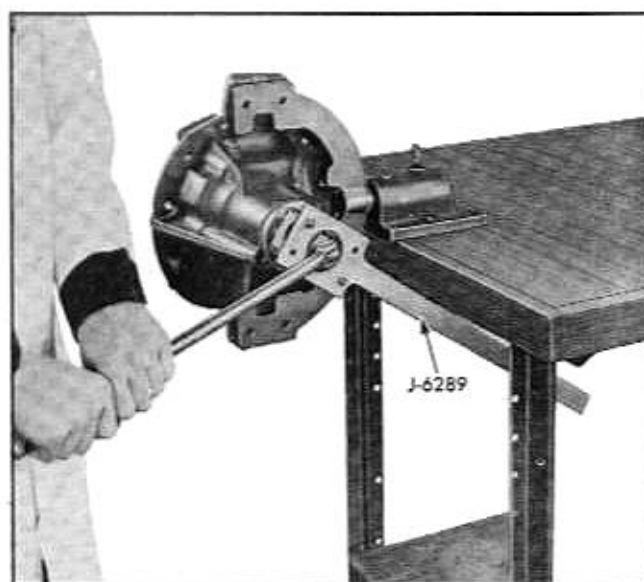

Fig. 4-27 Holding Companion Flange With Holding Tool J-2933-A
5. Remove drive pinion nut and washer using heavy duty socket and Holding Tool J-6289 (Fig. 4-27).